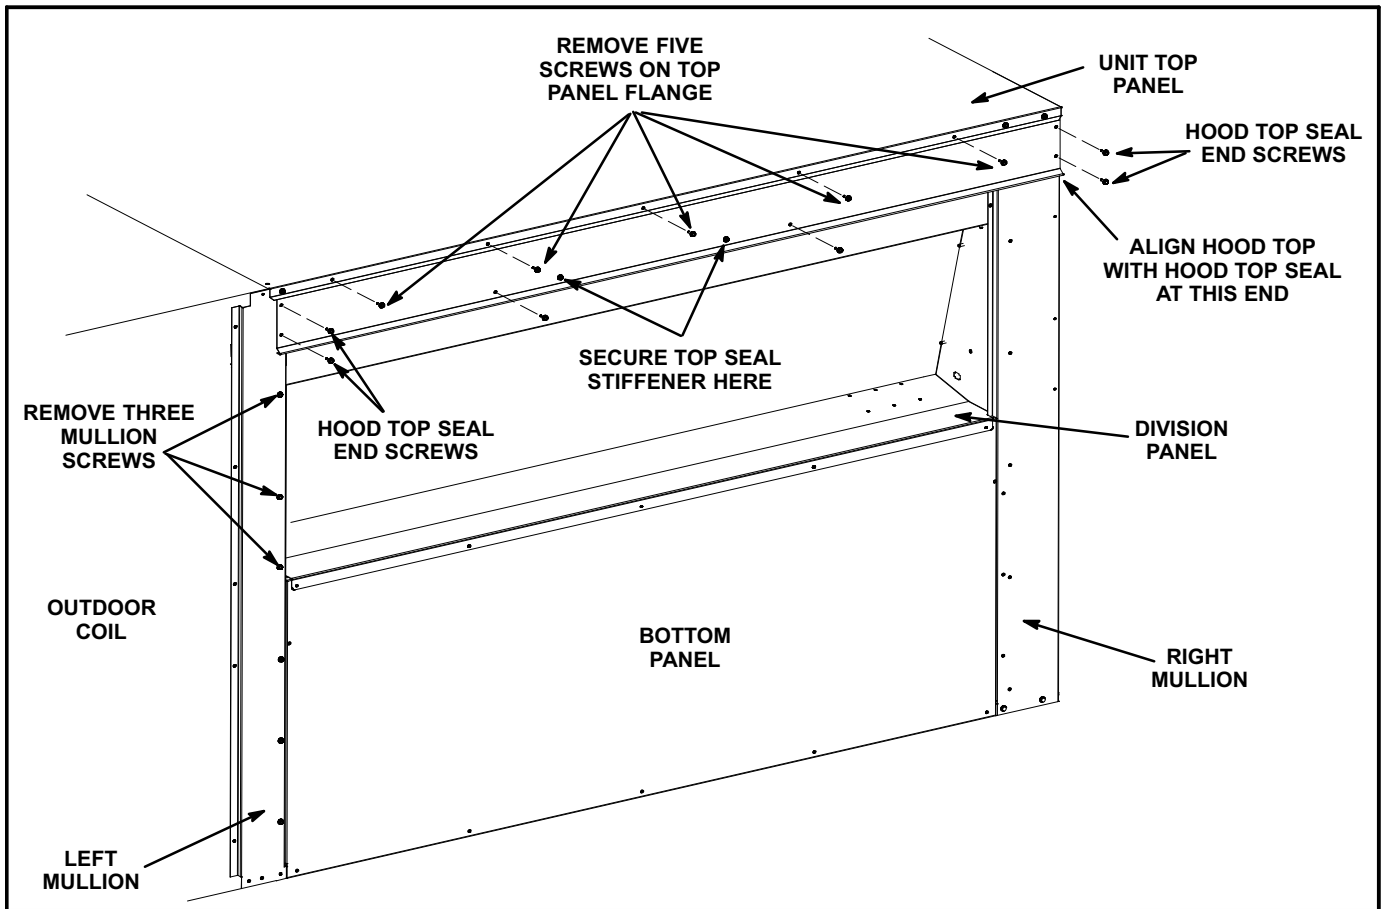

FIGURE 9
The outdoor air hood is packaged separately but attached to the damper assembly crate. Use #10 self drilling screws to install hood unless noted otherwise. Refer to figures 9, 10, 11 and 12.
- 2- Secure top seal stiffener to back side of hood top seal. See figures 9 and 10.
- 3- Slide hood top seal under unit cabinet top and secure using five retained top screws. Install, but do not tighten, the two screws on each end of the hood to seal. Refer to figure 9.
- 4- Remove and retain top three screws on the left mullion of the outdoor air section. See figure 9.
- 6- Position the hood top edge V-channel under the corresponding V-channel on the hood top seal and slide into place from right to left. See figure 9 and 9.